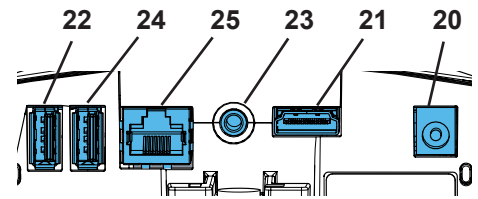

Fig. 12
**Never plug the jack plug into the connection for the foot switch (23, Fig. 12)! This will destroy the head.**